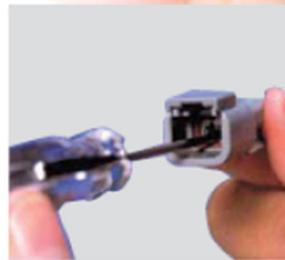

**Figure 6: Contact Insertion**
- 1.5. Ensure contacts are locked in per Figure 6 and engage the wedge lock.
- 2.6. Ensure contacts are locked in per Figure 6 and engage the wedge lock.
- 2.11. Ensure contacts are locked in per Figure 6 and engage the wedge lock.
7. Insert crimped wires as follows (Refer to Figure 6 for contact insertion instructions):
8. Ensure contacts are locked in per Figure 6 and engage the wedge lock.